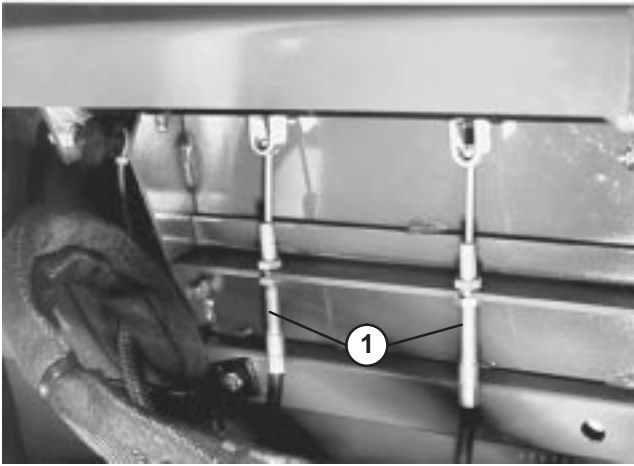

Figure 67
2. To reduce free travel of brake pedals, tighten the brakes by loosening the front nut on threaded end of brake cable (Fig. 67). Then tighten rear nut to move cable backward until brake pedals have 1/2 to 1 inch of free travel. Tighten front nuts after brakes are adjusted correctly.